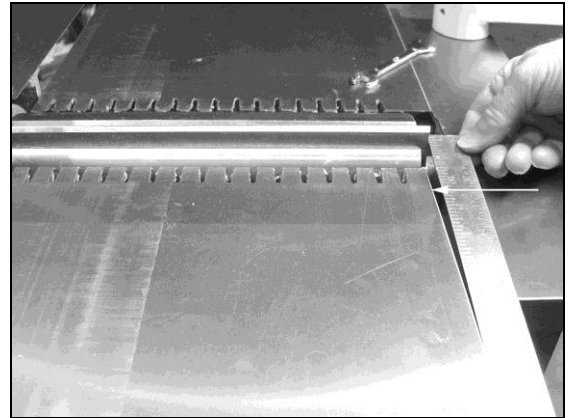

Figure 8
6. With the knife in the slot use a straight edge on the rabbeting ledge as shown in Figure 8 to push the knife into alignment with the edge.